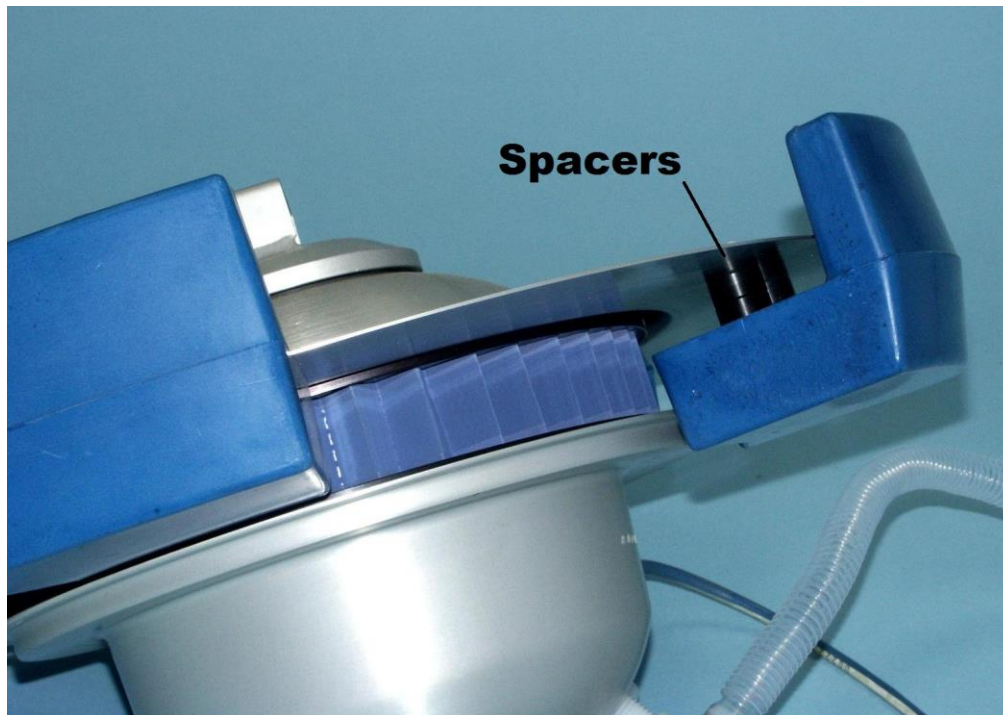

Figure 1-5: Detail of float (lowered) for rough water position.
The lid is made of anodized aluminum and has four blue polyurethane floats that serve as edge guides (thereby keeping the unit from getting hung up) as well as keeping the unit afloat. Flotation is provided by the four lid floats and the orange output hose floats. The lid floats may be adjusted with spacers to change the floating height of the oil/water separator cartridge with respect to the oil/water interface. Figure 1-5 shows a lid float with the spacers adjusted for a rough water position. See *Section 3: System Operation* for further information on changing the float height of the buoy.
In situations when the water is frequently rough or the cartridge has become contaminated with detergent, it may be necessary to float the buoy above the oil/water interface in order to prevent water intrusion. The two pair of washer shims above each lid float may be placed between the lid and the float as shown in Figure 1-5. Note that a total of three float positions are possible with the spacers provided
2. Carefully pull out the four floats and re-insert them with either one or two spacers between the float and the lid (see Figure 1-5).